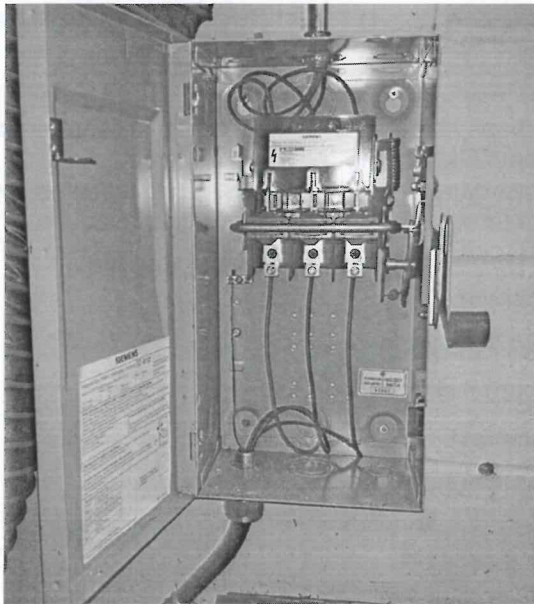

Figure 3-3
- 3.1.9.2. The existing disconnect box used for the Maximart Milling Machine, as shown in Figure 3-3, may be re-used by the Contractor for the installation of one of the new machines if it is compatible with the power requirements of the new machine. This connection currently provides 575 VAC / 3 Phase / 60 Hz power to the Maximart Milling Machine. If this disconnect box is not used by the Contractor for the installation of the new machine at this location, then the Contractor must remove and dispose of this box and provide a new box that is compatible with the Contractor's machine.